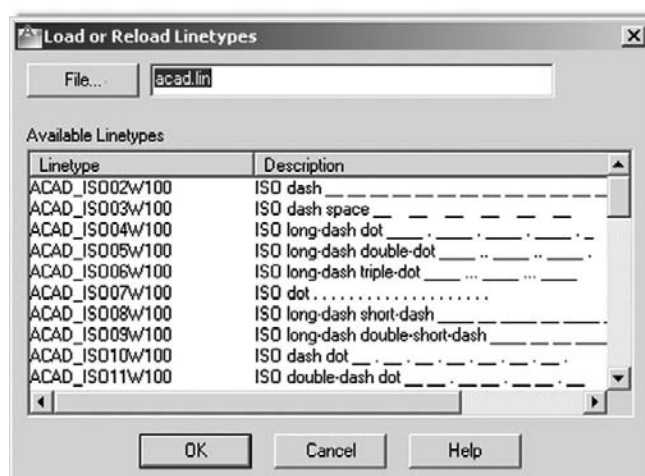

FIGURE 3.8
- Step 2.** Press **Load...** The Load or Reload Linetypes box comes up (Figure 3.8).